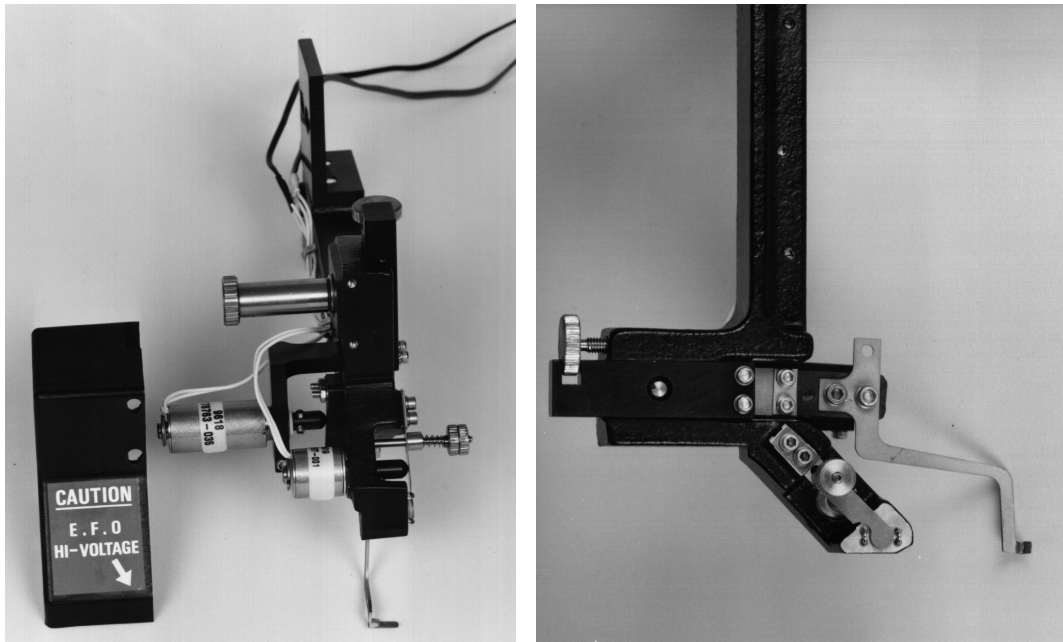

Figure 9-10: Electrode and Drag Assembly
- 5 Tighten the set screws (see Figure 9-10).